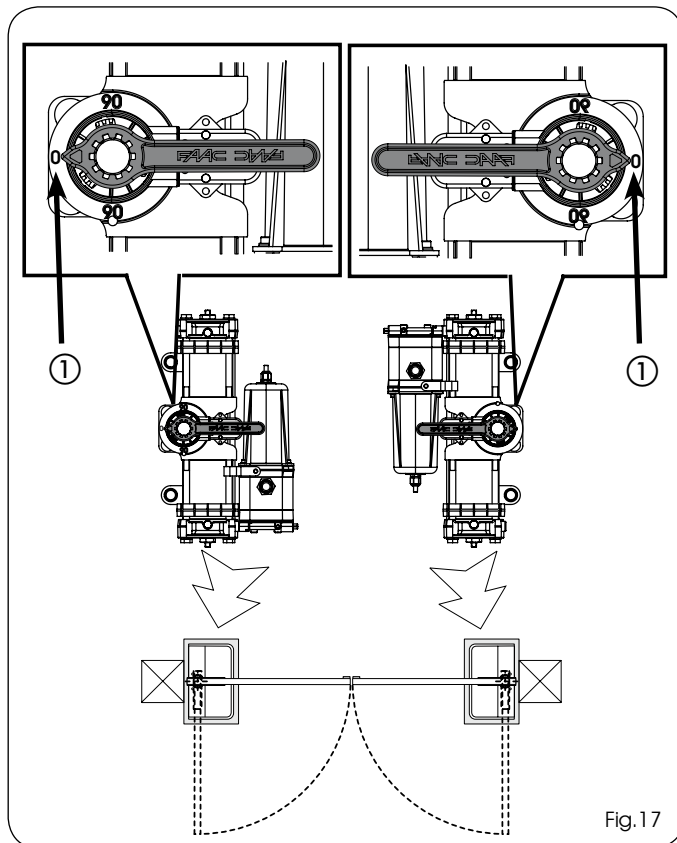

Fig. 17
- 6) **Without moving the pinion**, insert the supplied wrench on the operator as shown in Fig. 17, and make sure that it indicates 0 (ZERO) on the operator's plastic panel (Fig. 17 ref. 1). If necessary rotate the pinion with this. **(IMPORTANT FOR CORRECT COUPLING OF THE PINION-GROOVED BUSH DURING INSTALLATION).**
- 6) **Without moving the pinion**, insert the supplied key on the operator as shown in Fig. 17, and make sure that it indicates 0 (ZERO) on the operator's plastic panel (Fig. 17 ref.①). If necessary rotate the pinion with this.